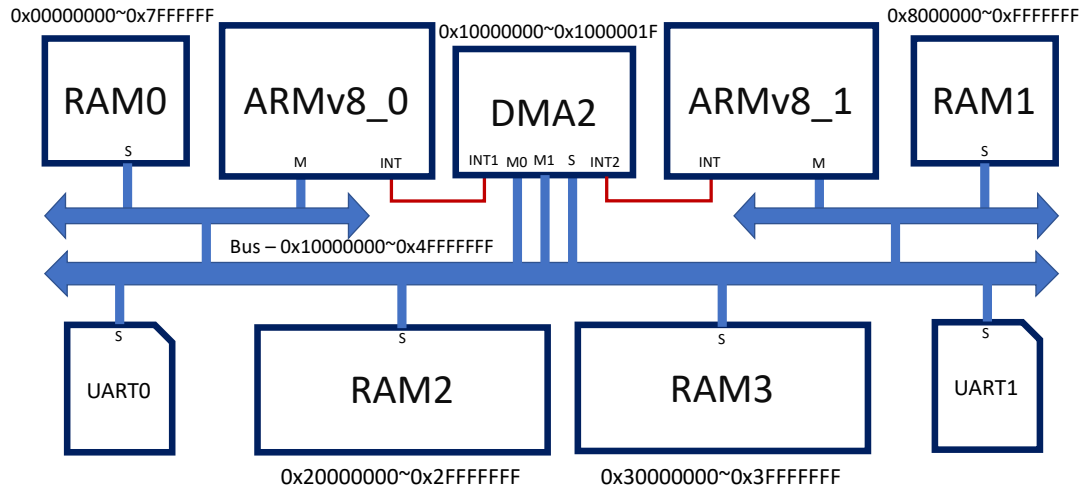

Figure 1 Target Architecture
1. First, place two (2) Cortex-A35 cores, two (2) 128MB RAMs, two (2) 256MB RAMs, a DMA2, two (2) UARTs, and three (3) TLM 2.0 buses into the system, with addresses and connections as described in Figure 1. Two Cortex-A35 cores are named ARMv8_0 and ARMv8_1.
2. The DMA2 needs to be modified from the DMA of Assignment 1 to have two (2) interrupt output ports, INT1 and INT2. There are two (2) sets of control registers; one set is addressed between 0x0 and 0xF, and the second set is addressed between 0x10 and 0x1F. Each set of control registers is defined in the same way as in Assignment 1. The first set is used by ARMv8_0 and the second by ARMv8_1. There is only one (1) slave port and